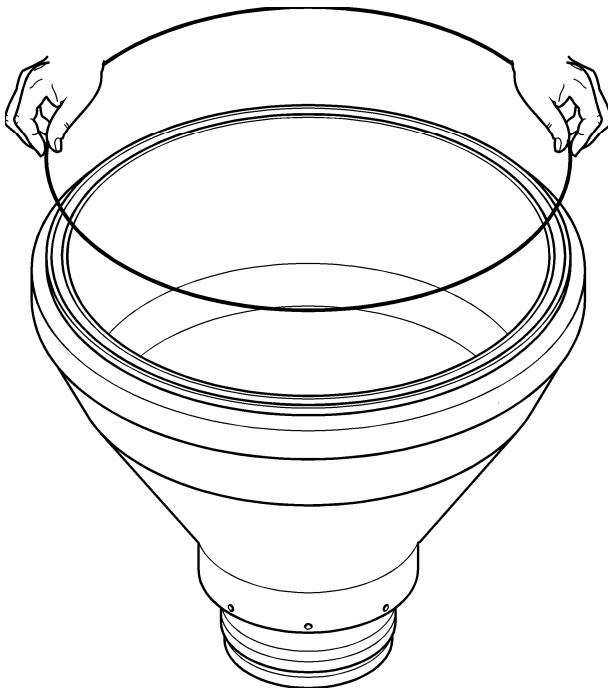
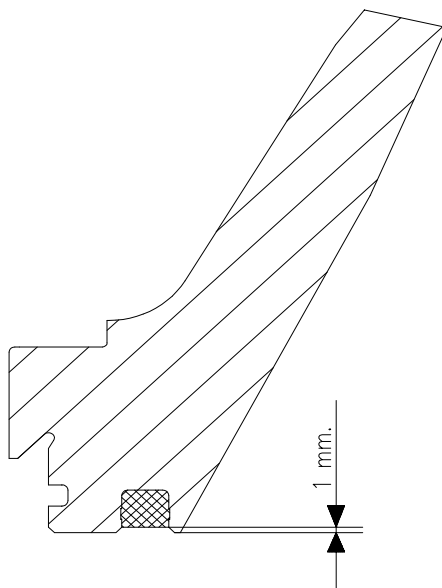

Figure 6.13
Figure 6.15
- 11) After carefully cleaning the grooves, insert the **nylon gasket** and the OR gasket on the bowl hood (Fig. 6.13 and 6.14). To apply the nylon gasket, turn the bowl hood upside down and fit the gasket over the groove; then start inserting it slightly giving blows with a plastic hammer. This operation must be made striking, uniformly on the circumference, the gasket in one point and after in the opposite one (180°). When gasket has been uniformly inserted, take a small piece of the older gasket and, after placing it over the new one, give on it some plastic hammer blows until it enter of about 1 mm. under the bowl hood surface (see Fig. 6.15).